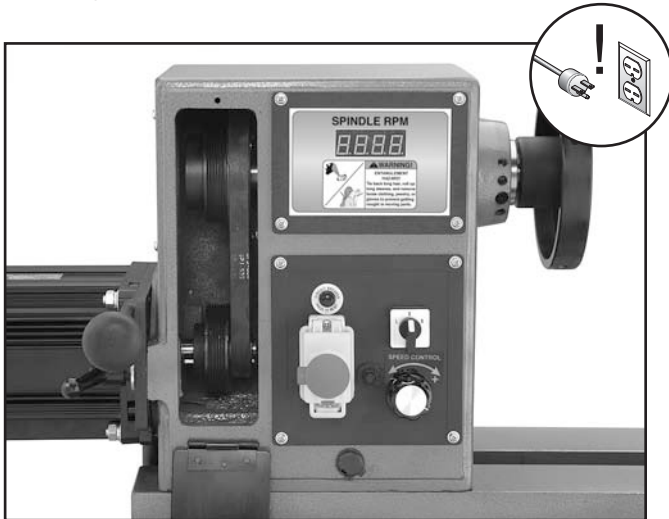

Figure 55. Belt access panel removed.
2. Open the front belt access panel (see **Figure 55**).